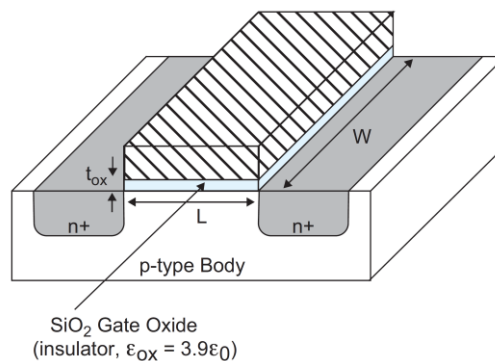

Figure 6: Transistor dimensions
- ✓ If the gate has length  $L$  and width  $W$  and the oxide thickness is  $t_{ox}$ , as shown in Figure 6, Then the capacitance  $C_g$  is